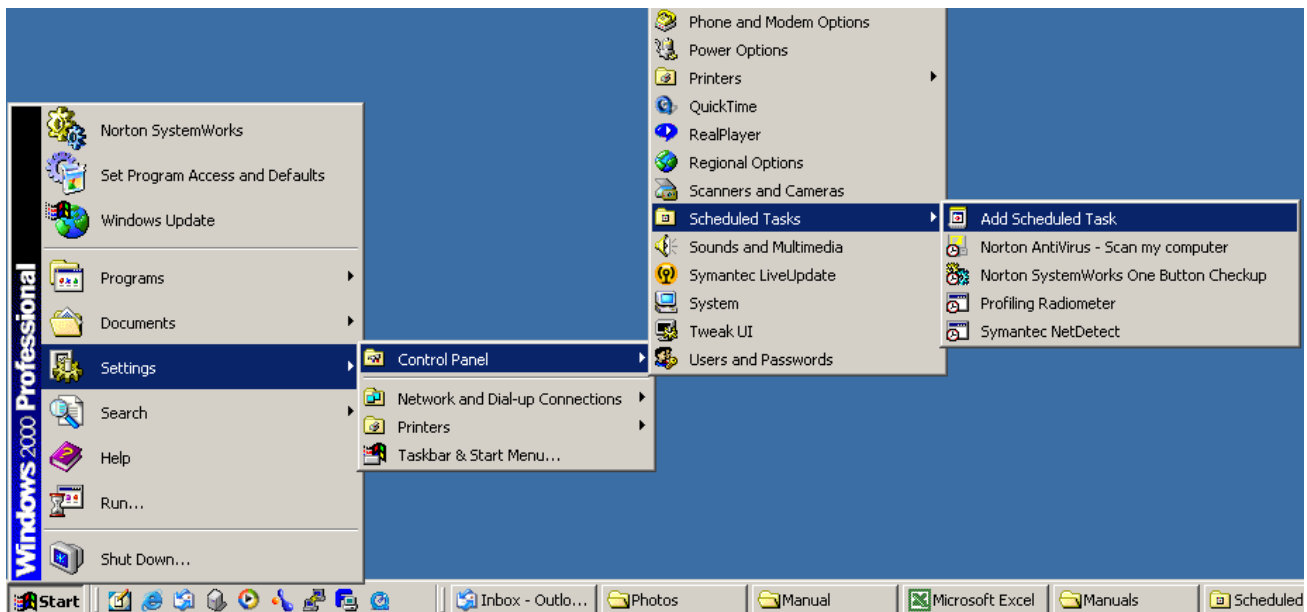

Figure 35 Navigating to Windows Scheduler
1. Open the Windows Control Panel “Scheduled Tasks”. Figure 35 shows how to locate this Control Panel in Windows 2000. Windows XP is similar.